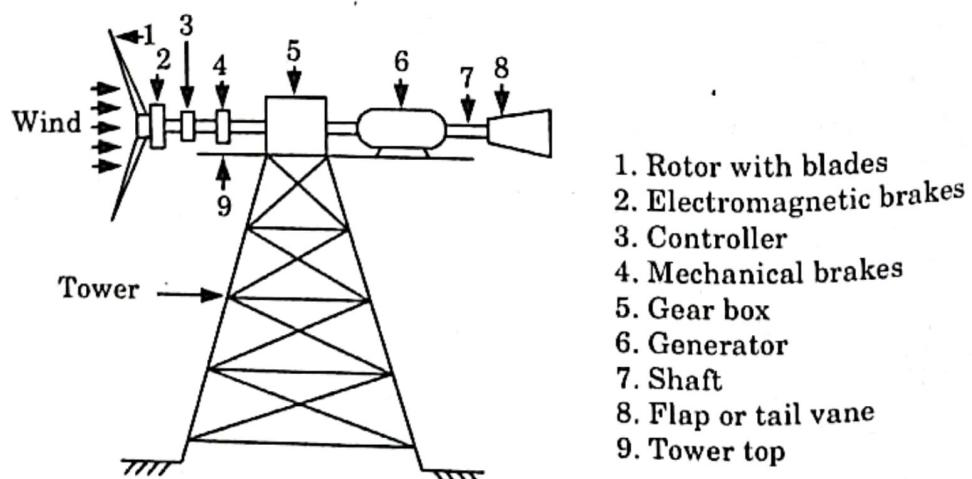

Fig. 4.13.1. Wind generator.
1. The components of a horizontal axis wind turbine are shown in Fig. 4.13.1.